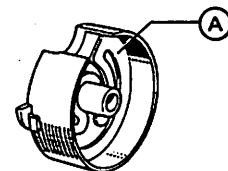

Fig. 23
- (2) Use the bobbin case which has idel running prevention spring (A) at the bottom as shown in Fig. 23.